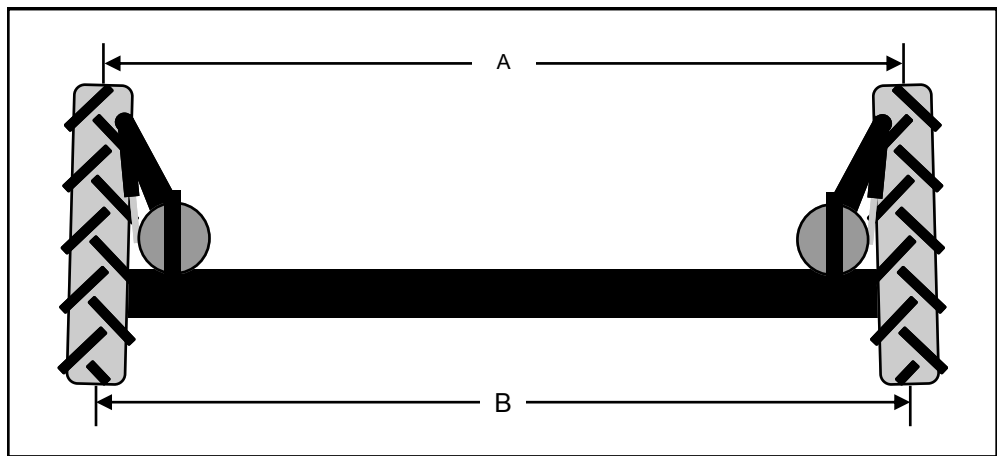

FIG 7.53
4. Move left and right tires evenly until difference in dimension "A" and "B" (fig. 7.53) are within specified